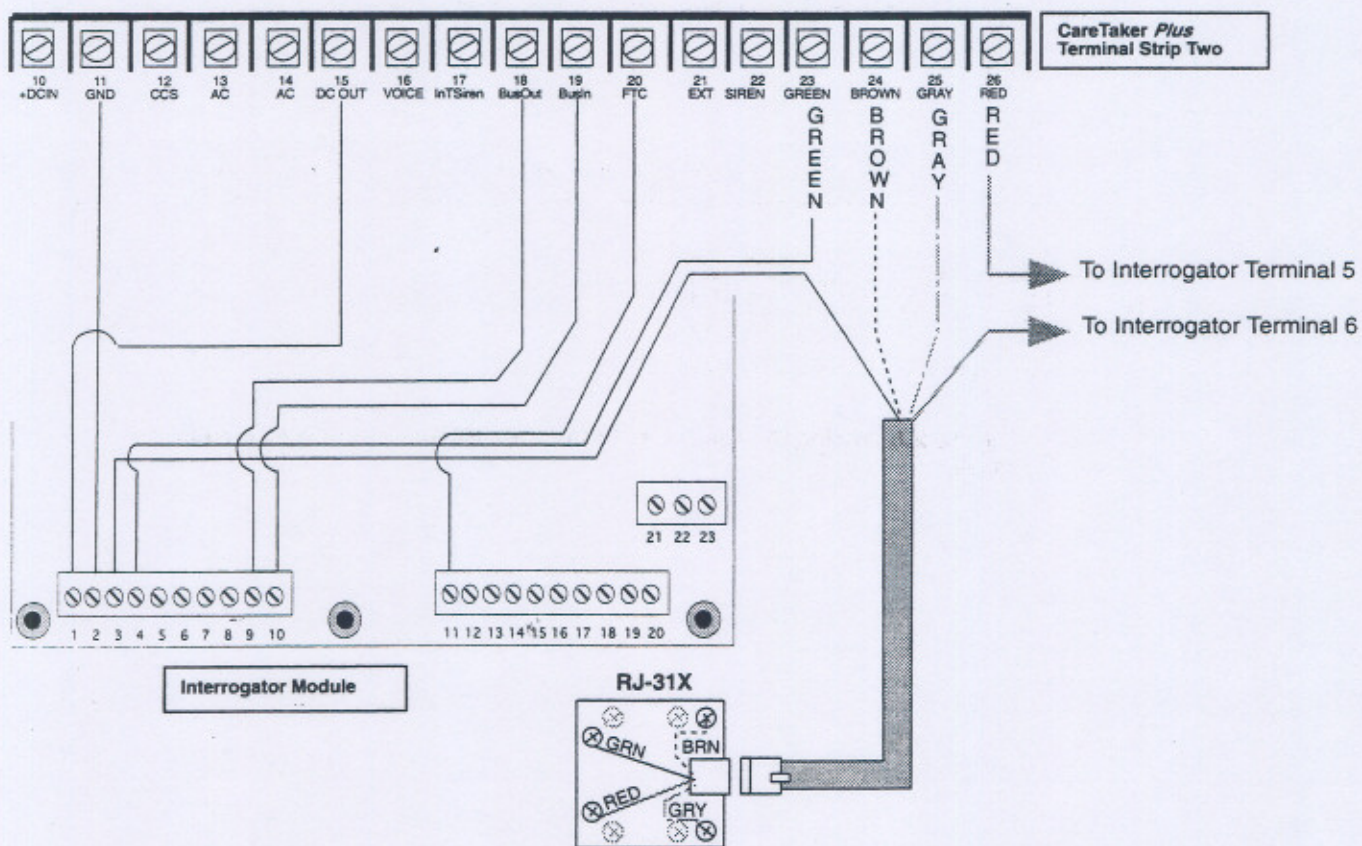

Figure 2.9 CareTaker Plus Wiring Diagram
2. Wire the Interrogator Module to the CareTaker Plus, using 22-gauge stranded wire. Follow the wiring diagram in Figure 2.9.
3. Connect the phone circuits as shown in Figure 2.9.